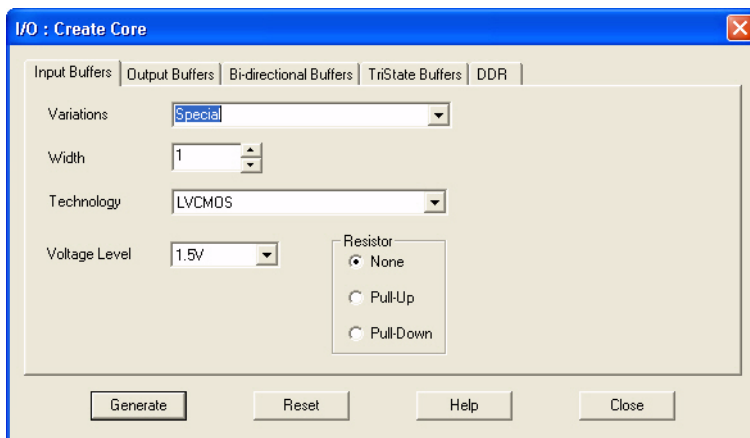

Figure 13-4 • I/O Create Core Window
- Double-click any of the varieties. The I/O Create Core window opens (Figure 13-4).
As seen in Figure 13-4, there are five tabs to configure the I/O macro: Input Buffers, Output Buffers, Bidirectional Buffers, Tristate Buffers, and DDR.
The **Special** variation has Width, Technology, Voltage Level, and Resistor Pull-Up/Down options (see Figure 13-4). All the I/O standards and supply voltages (V_{CC}) supported for the device family are available for selection.